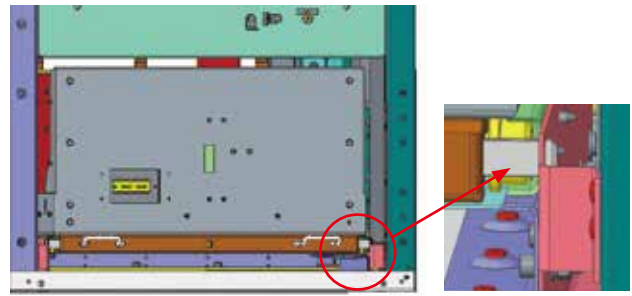

Figure 6.15: Lock the truck into the panel
- Release the two sliding cranks and make sure the lock plate inserting into the holes at both sides of guide rail. (See figure 6.15).